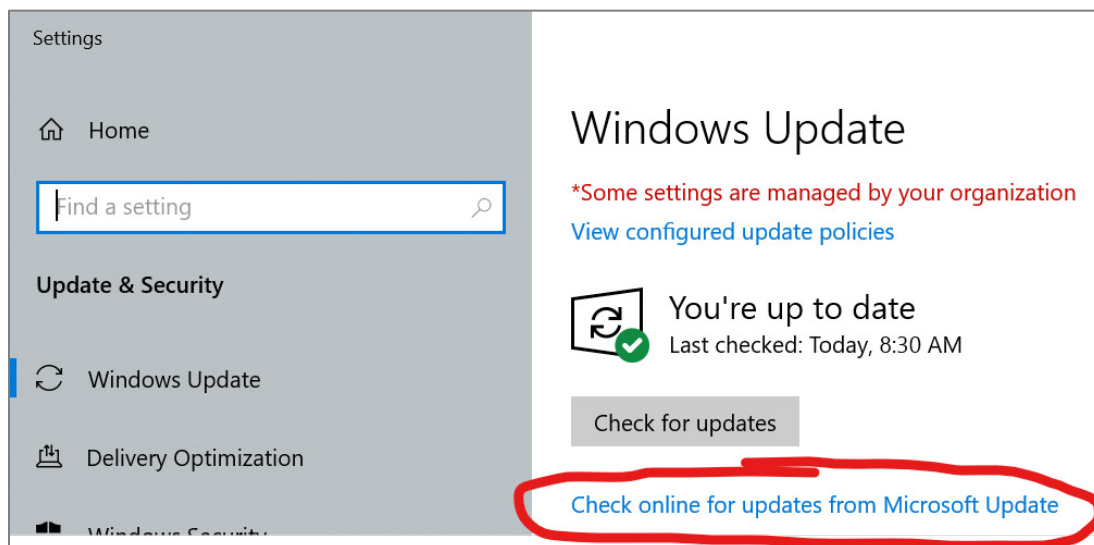

Figure 1. The Windows Update screen for updating a government computer. NPS figure
2. To update a government computer, you must be connected to the internet. Connect to a vpn if on public Wi-Fi. Open Windows Update by typing Update into the Start Menu and selecting “Check for Updates.” Click the blue text that says “Check Online for Updates” in Windows Update (Figure 1).